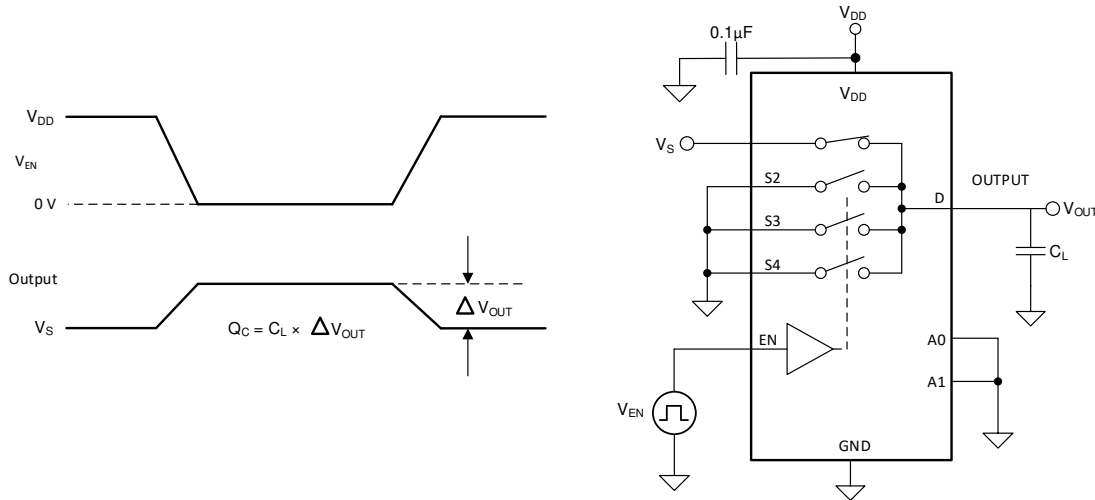

图 13. Charge-Injection Measurement Setup
The TMUX1204 has a transmission-gate topology. Any mismatch in capacitance between the NMOS and PMOS transistors results in a charge injected into the drain or source during the falling or rising edge of the gate signal. The amount of charge injected into the source or drain of the device is known as charge injection, and is denoted by the symbol Q_C . Figure 13 shows the setup used to measure charge injection from source (Sx) to drain (D).